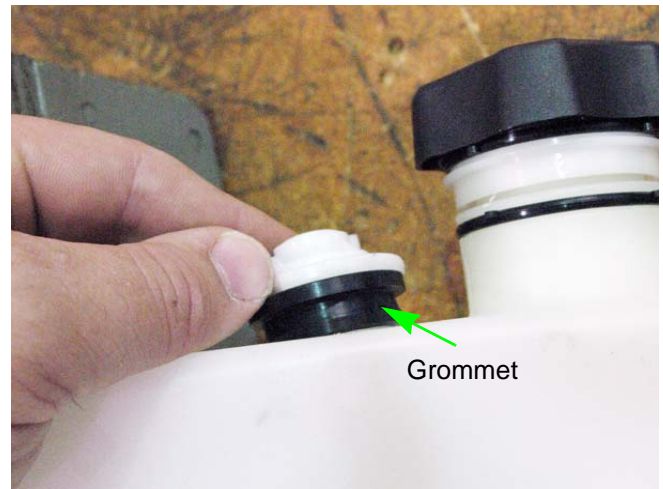

Figure 4.17
4. With the grommet on the roll over valve, install the roll over valve by pressing it into the opening in the tank. See Figure 4.17.